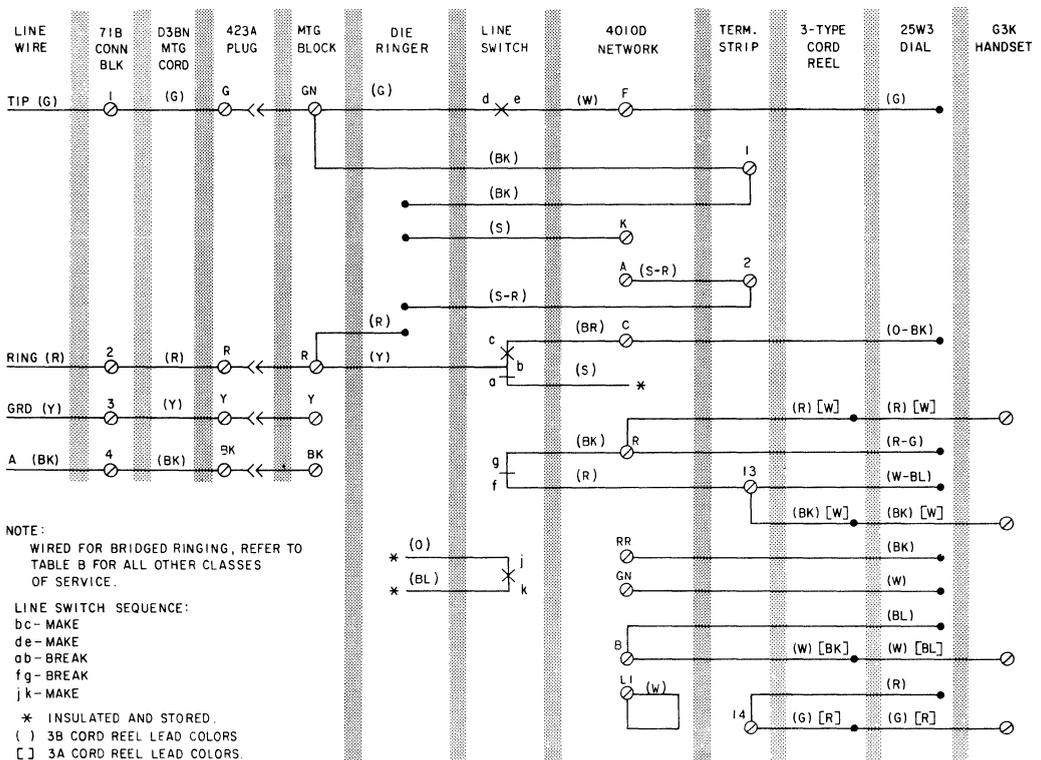

Fig. 1—1750A/B (MD) Telephone Set, Connections With 25W3 (MD) Dial
- Nontechnical changes to Fig. 1 and 2